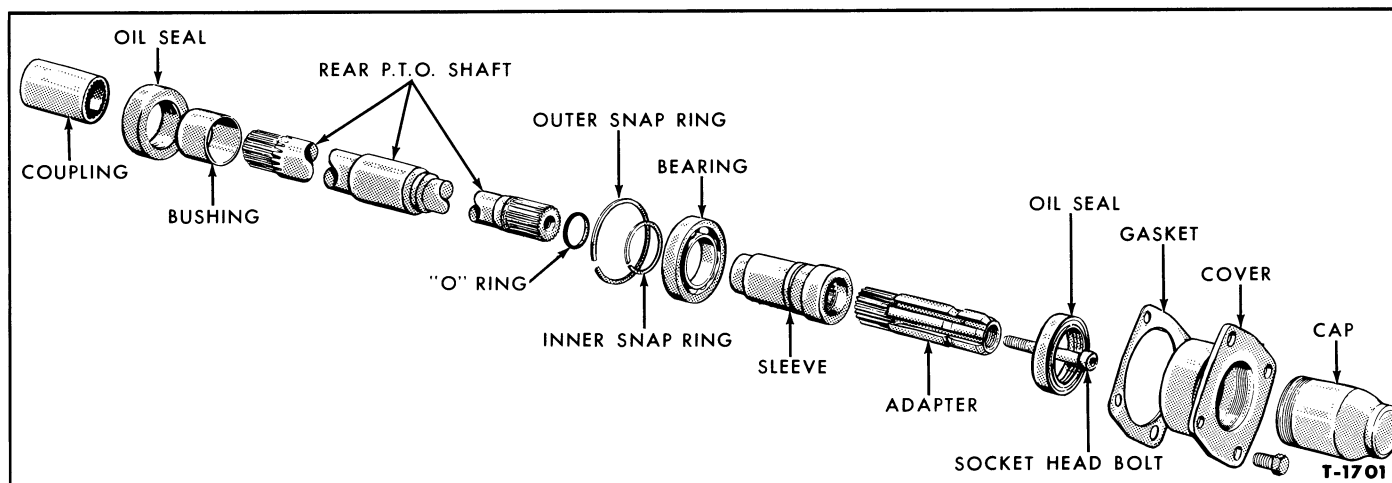

Figure 2—Two Speed P.T.O. Shaft
2. Remove the P.T.O. cap and the four bolts securing the cover, Figure 2.
4. Remove the socket head bolt, Figure 2, and pull the adapter from the sleeve.
8. Inspect the sleeve and bearing. If necessary, remove the inner snap ring, Figure 2, from the sleeve, then press the sleeve out of the bearing. Press a new bearing on the sleeve and install the inner snap ring.
9. Inspect the P.T.O. shaft for cracks or damaged splines. Lubricate a new "O" ring, Figure 2, and install it on the shaft.
12. Install the outer snap ring and the adapter, Figure 2. Secure the adapter with the socket head bolt.